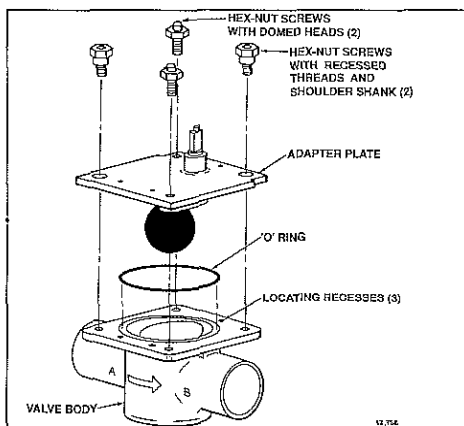

Fig. 3—Install 40003918 Conversion Kit.
5. Install 40003918 Conversion Kit (see Fig. 3)—